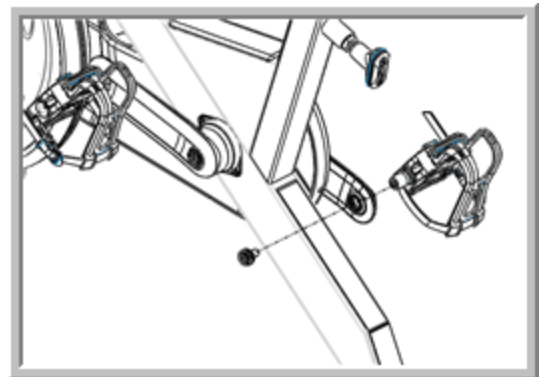

Fig. 6
6. Installing the Pedals (Fig. 6)